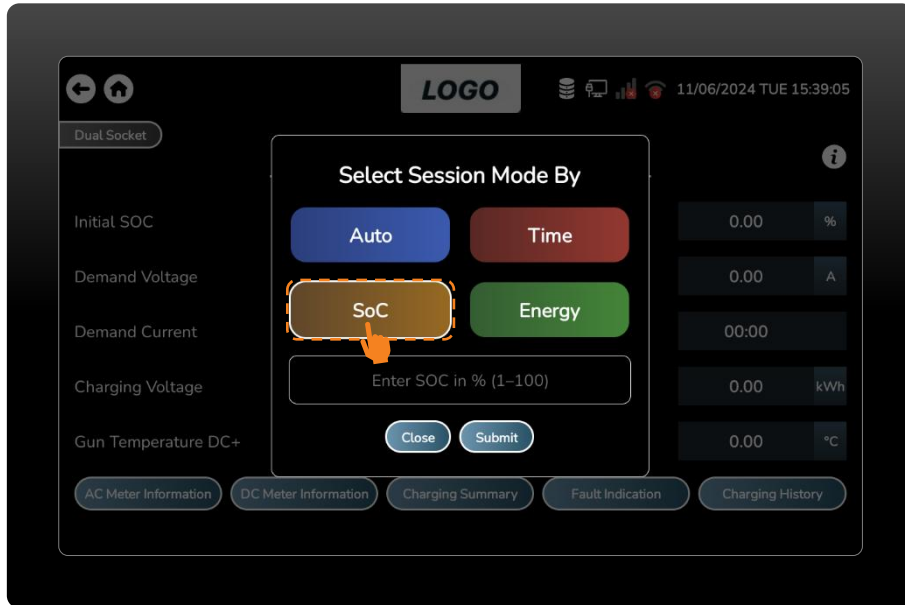

Figure 59 SoC Mode Selection.
- SoC mode allows the user to specify the state of charge, which ranges from 1 to 100%, allowing them to charge the vehicle at a certain percentage. (Figure 59)